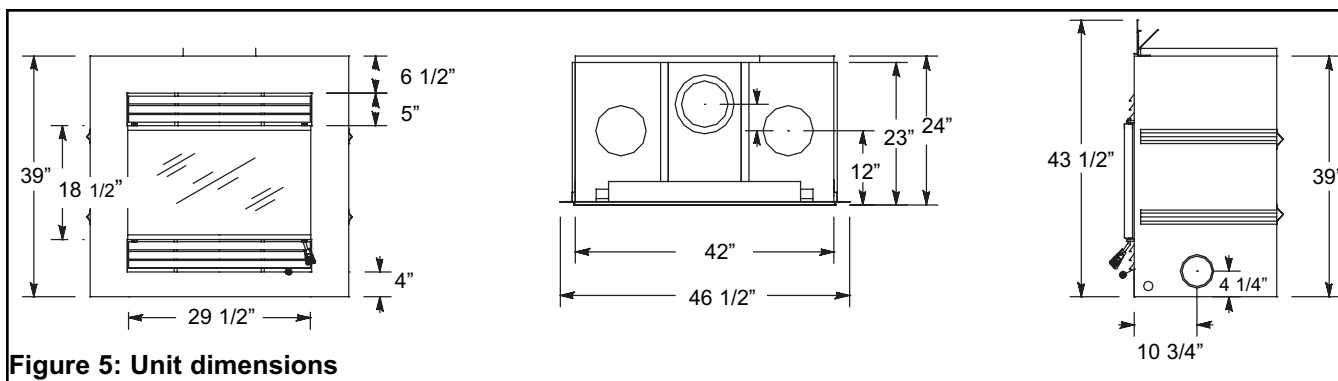

Figure 5: Unit dimensions
The enclosure walls can be framed using any suitable materials (2 x 4 studs, plywood, gypsum board, etc.). See (Figure 5) for dimensions. Normally, framing will be set back to allow the sheeting to be level with the front of the fireplace.
2. Frame an area to fit the Onyx AP. Follow the framing dimensions on (Figure 5).